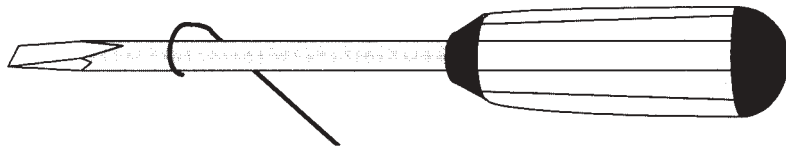

Figure 2.3 Creating a Hook in the Wire
6. Using the rounded shaft of the screwdriver, form a hook in the end of each bare copper wire. (See Figure 2.3.)